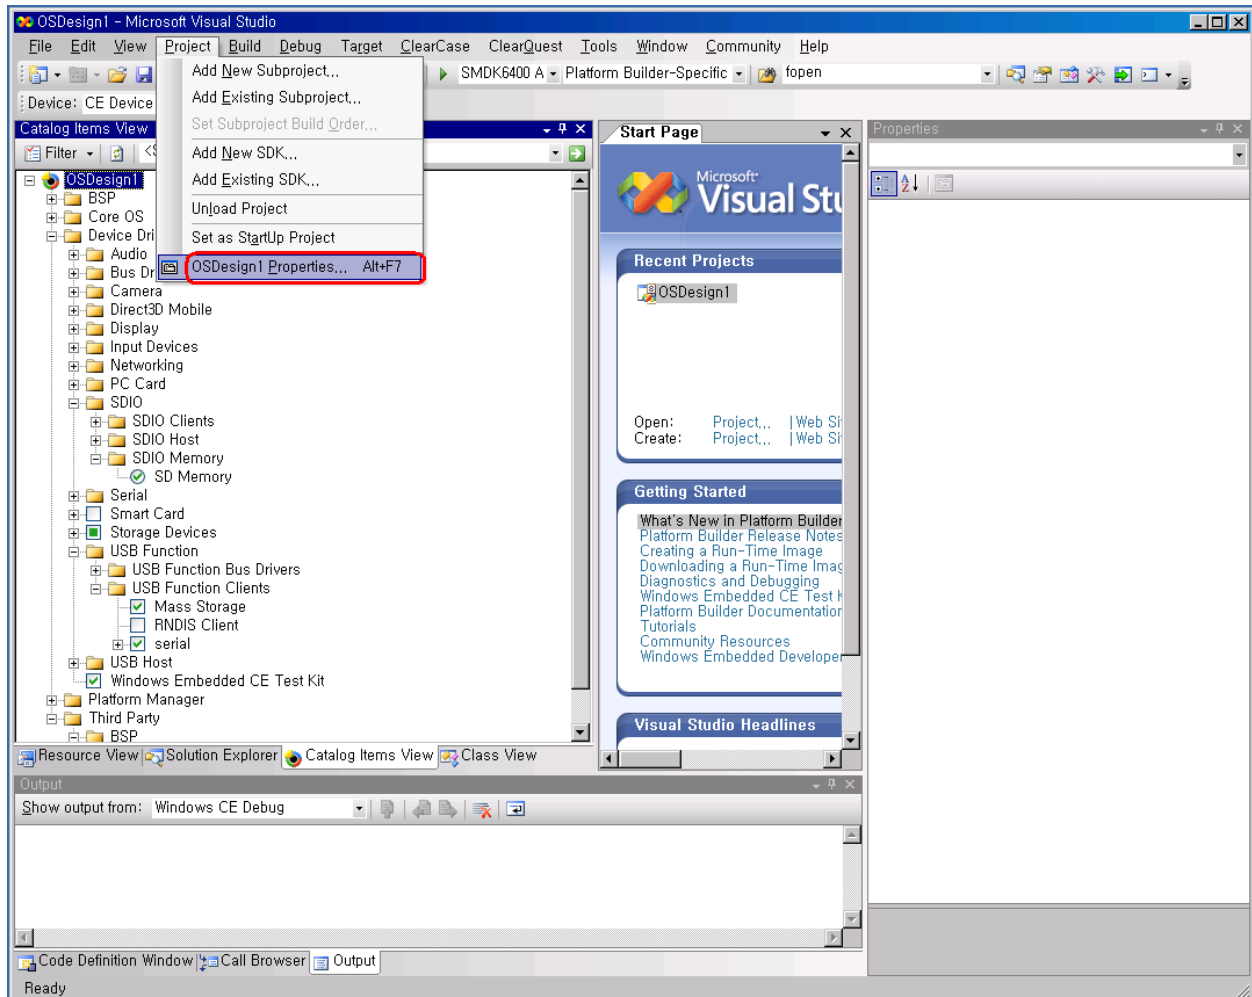

Figure 4-12 Properties of OS Design
12. On the **Build** menu, click **Build OSDesign1** as shown in figure 4-12 to build the Eboot and OS image.
14. After completion of build process, following messages appear as shown in figure 4-12. EBOOT.nb0, EBOOT.bin, STEPLDR.nb0, NK.bin and NK.nb0 are now available in X:\WINCE600\OSDesigns \[OS Design Name] \[OS Design Name]\ReIDir\SMDK6410\_ARMV4I\_Release directory.